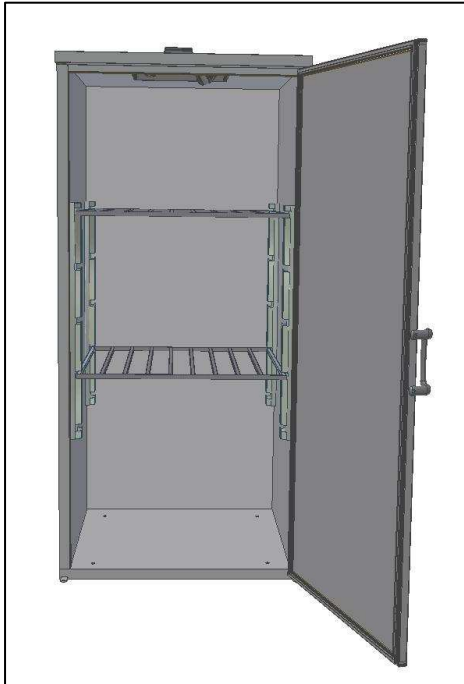
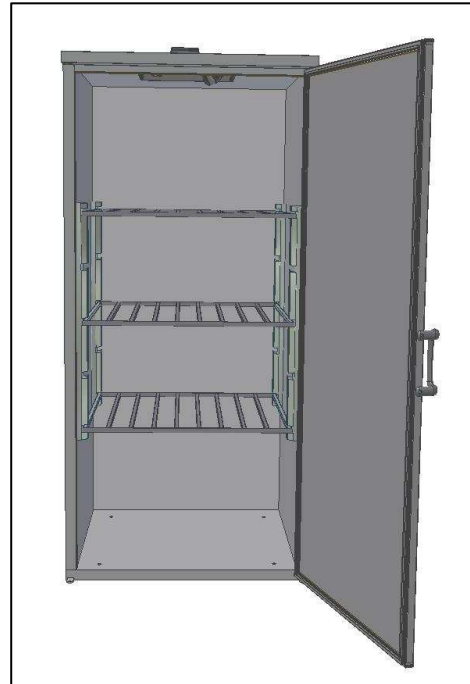

Fig. 14
Fig. 15
- Place the **grids** in the interior of the cabinet. Cabinet 1850 (Fig.14), Cabinet 2000 (Fig. 15);